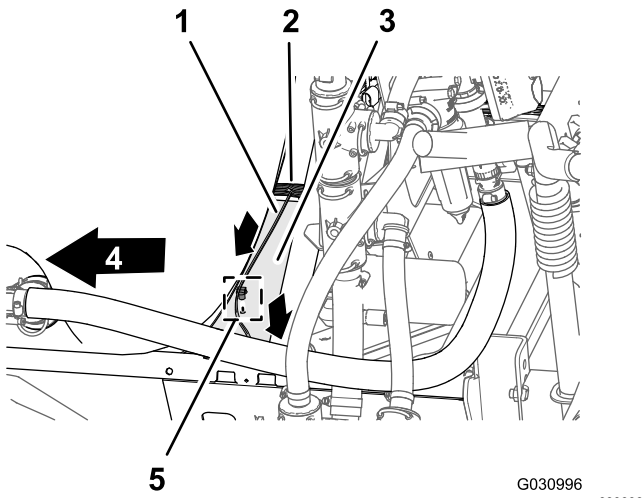

Figure 94
1. Route the 86.6 cm (34 inches) wire harness branch for the spray-pump solenoid across the top of the sprayer frame channel and down toward the sprayer pump solenoid (Figure 94).
2. Insert the push-in fastener of the 86.6 cm (34 inches) wire harness branch into the hole in the sprayer frame channel (Figure 94).